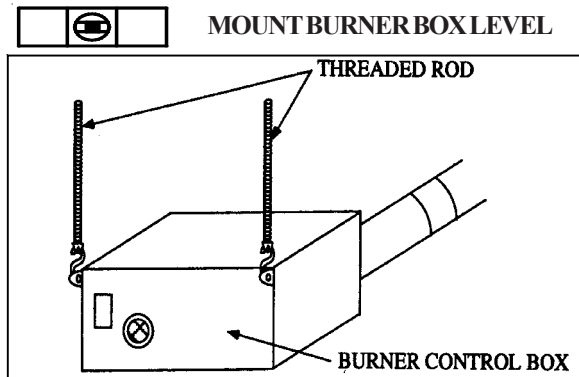

Figure 3-2
**NOTE:** If windy conditions exist in the space around the heater, it may be necessary to rigidly mount the heater to prevent swaying. It is recommended that threaded rod be used for the two hanging points at the burner control box (see Figure 3-2). The remaining hanging points should use chains to allow for heater expansion.